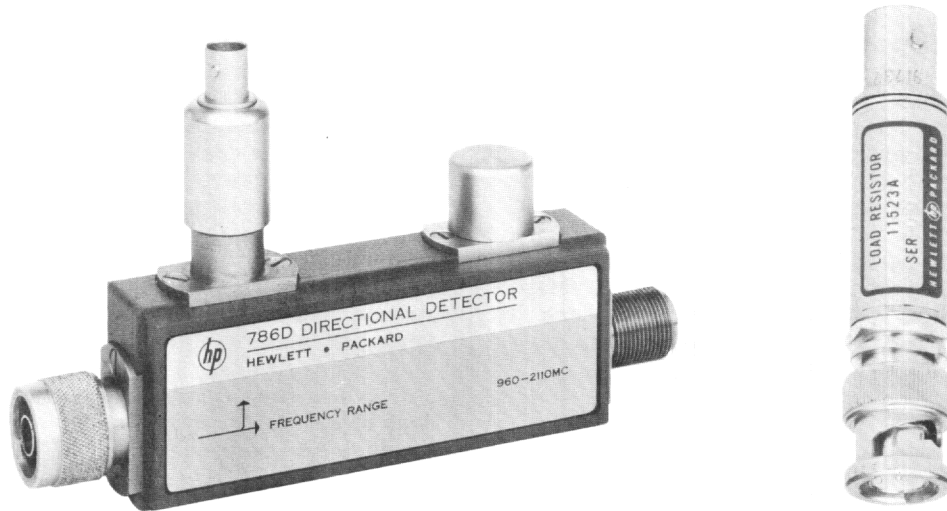

Figure 1. Model 786D and Option 02 Accessory Load Resistor
2. The Directional Detector, a directional coupler with built-in crystal detector, is designed for use in coaxial systems over a relatively wide frequency range. Applications include closed-loop leveling, observation of RF envelope variation, and power monitoring. Output polarity of detected signal is normally negative, but positive output polarity is available as Option 03. Figure 1 shows Model 786D with Option 02 Load Resistor, available when optimum conformance to square-law characteristics is required. Table 1 lists complete instrument specifications.